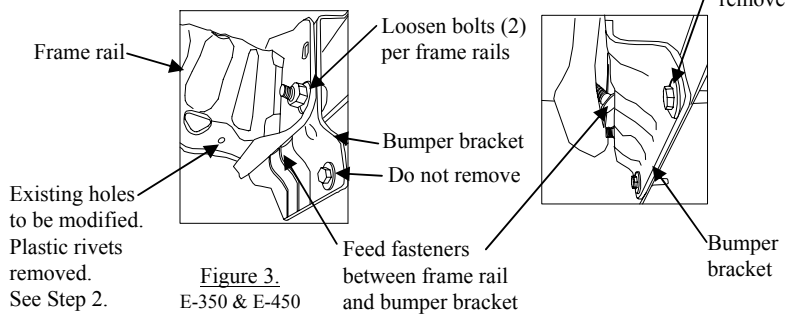

Figure 3.
- If present (E-350 & E-450) remove any plastic rivets from (see Figure 3) forward attachment on vehicle. Fold plastic between plastic covering and frame rail.